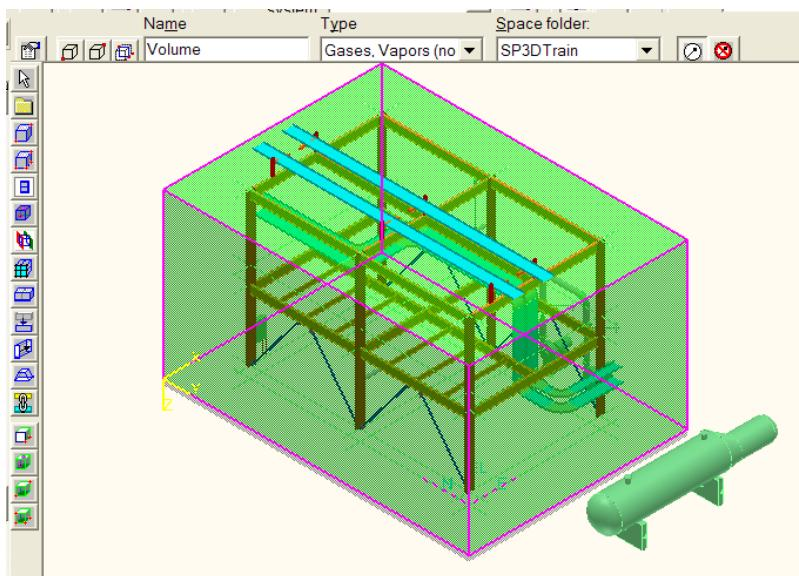

Figure 1: Output: Volume Placed by Two Points
- Some commands can create relationships to the inputs used to define the volumes. These commands have two toggle buttons on the create ribbon to control this associative behavior. See the buttons to the right on the Volume by Two Points ribbon in Figure 1. If you establish relationships when you place the volumes, you can't move the volume but it will automatically adjust in size and position when the input objects are edited. If these buttons are not displayed, then the volumes are created by the command without relationships to other objects in the model.
Place a rectangular **Hazardous Zone** by using the **Place Volume by Two Points** command and referencing objects in Unit **U01**. The view of the model after placing the rectangular volume should look like Figure 1.
- By default, the volume appears opaque when it is placed. To display the volume with translucent surfaces, you can apply surface style rules. A surface style rule setting all volumes to translucent green was used for Figure 1 and the rest of the figures in this tutorial. See Common session 6: Applying Surface Style Rules tutorial.